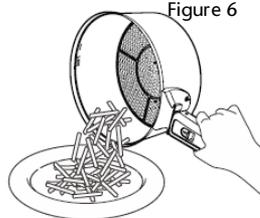

Figure 6
- Check that your foods are ready. If not, then place the Basket (13) back into the Pan (12) and set the timer for a few more minutes.
- Empty the contents of the Basket (13) into a bowl or onto a plate. (See Figure 6) If necessary, you can also use Tongs to remove foods from the Basket (13).